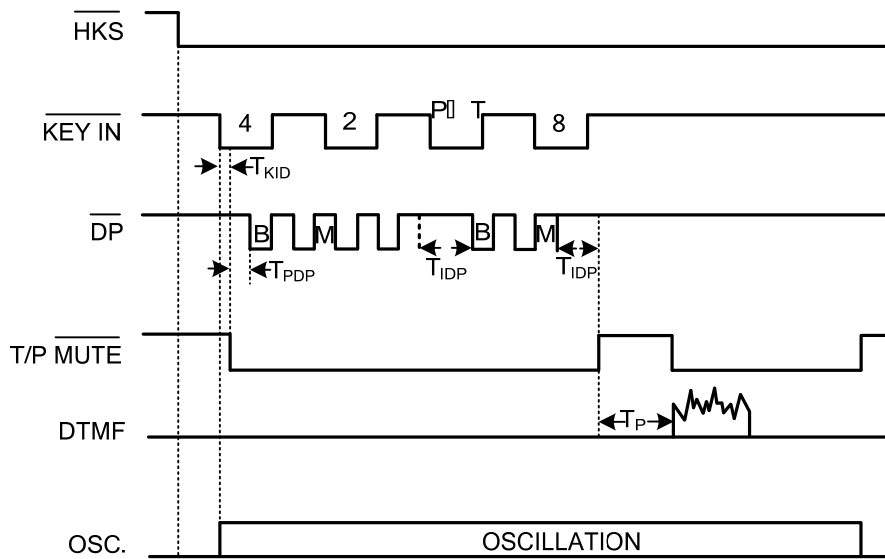

Fig. 4 Pulse-to-tone Function Timing Diagram
4. The P→T function timing diagram is shown in Figure 4.